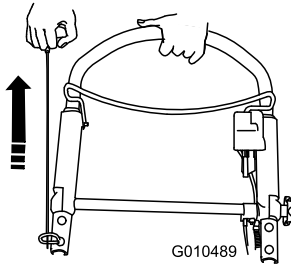

Figure 22
4. Pull the recoil starter (Figure 22).